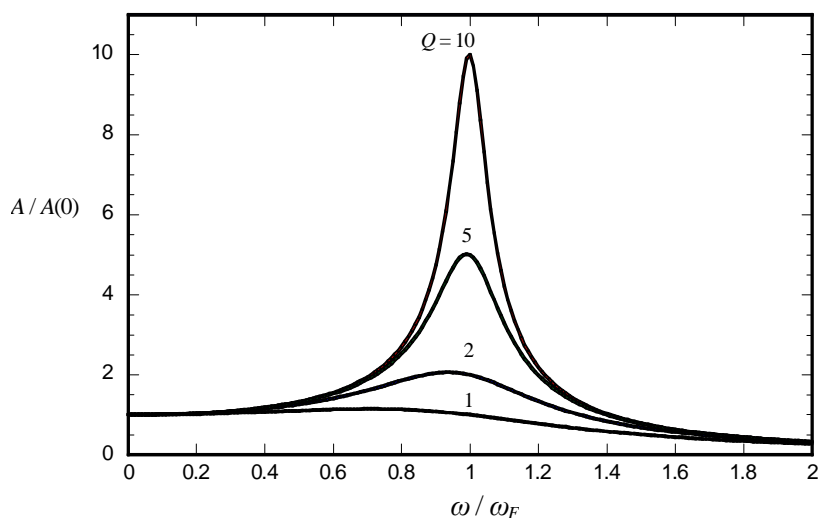

Figure 5. Amplitude as a function of frequency for various values of Q
$A(\omega)$ is shown for various values of Q in Figure 5 below.
Now we want to be able to produce a graph like that in Figure 5. You will want to find the amplitude for some frequencies around the resonant frequency.
2. Enter your data into Excel and **produce a graph** like that shown in Figure 5 for your data. Use $A(0) \approx A(0.01 \text{ Hz})$ and your experimentally determined value of f_R .